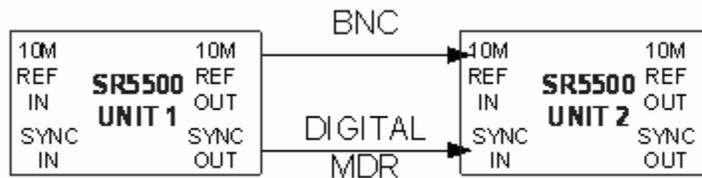

Figure 2-2: 10MHz Reference & Synchronization Connections Network Connections Setup
3. Synchronization of the units is attained by connecting the 10MHz Reference and Sync cables as shown in Figure 2-2 and Table 2-1.